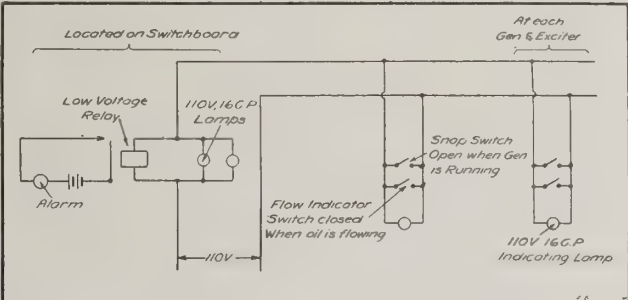

Fig. 10. Generator Bearing Oil Alarm.
**Generator Bearing Oil Supply:**—Sight flow indicators with electrical contacts were installed on the oil pipes of the generator and exciter bearings to insure continuous flow. The alarm system connected to these indicators is shown in Fig. 10. When the contact at the indicator is broken due to the stopping of the oil flow, a low voltage relay closes an alarm bell circuit at the switch board. At the same time an indicating lamp on the generator lights, thus showing which generator is in trouble.